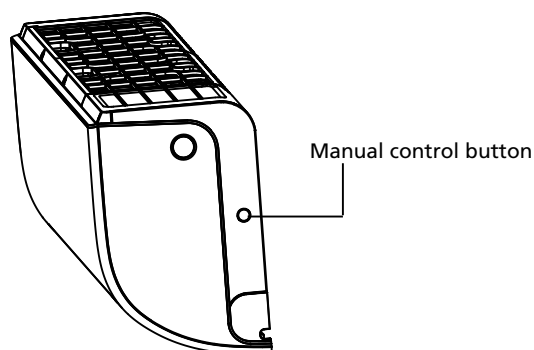

Fig. 8.1
1. Locate the **MANUAL CONTROL** button on the right-hand side panel of the unit. See Fig.8.1.